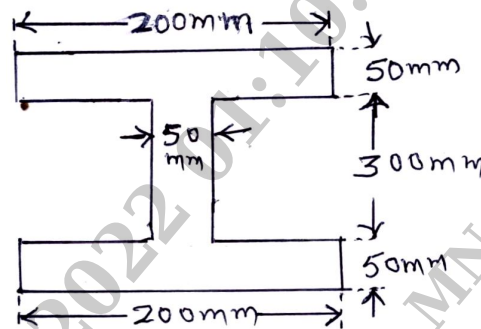

Fig.Q8(c)
- c. Draw shear stress distribution for an I-shaped section of beam shown in Fig.Q8(c). Shear force on the section is 200 kN.